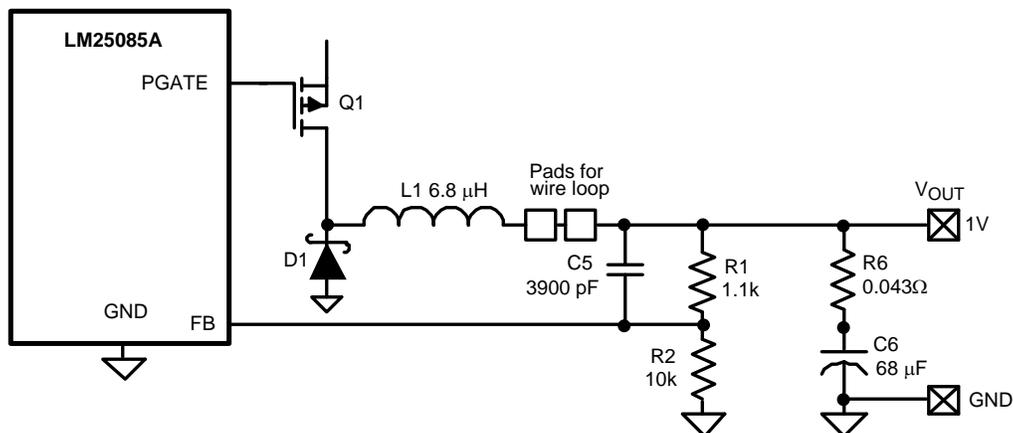

Figure 4. Reduced Ripple Configuration
B) Reduced Ripple Level Configuration: This configuration generates more ripple at V_{OUT} than the above configuration, but uses one less capacitor. If some ripple is acceptable in the application, this configuration is slightly more economical, and simpler. R6 and C5 are used instead of R7, C9 and C10, as shown in Figure 4.